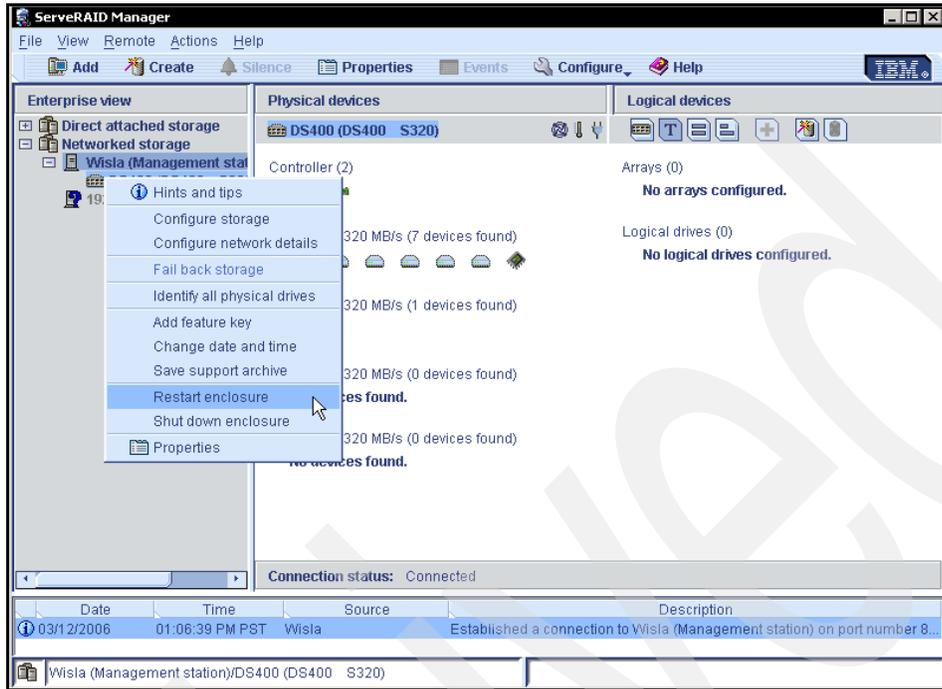

Figure 36 Finish and restart controller
8. Once the update is complete, restart the enclosure by right-clicking the controller in the Enterprise view of the ServeRAID Manager program interface as shown in Figure 36.